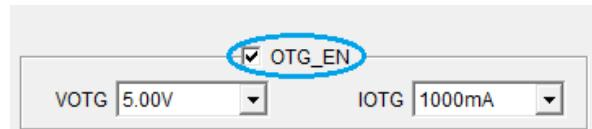

Figure 21: Enable OTG Mode
- Enable OTG mode (see Figure 21)